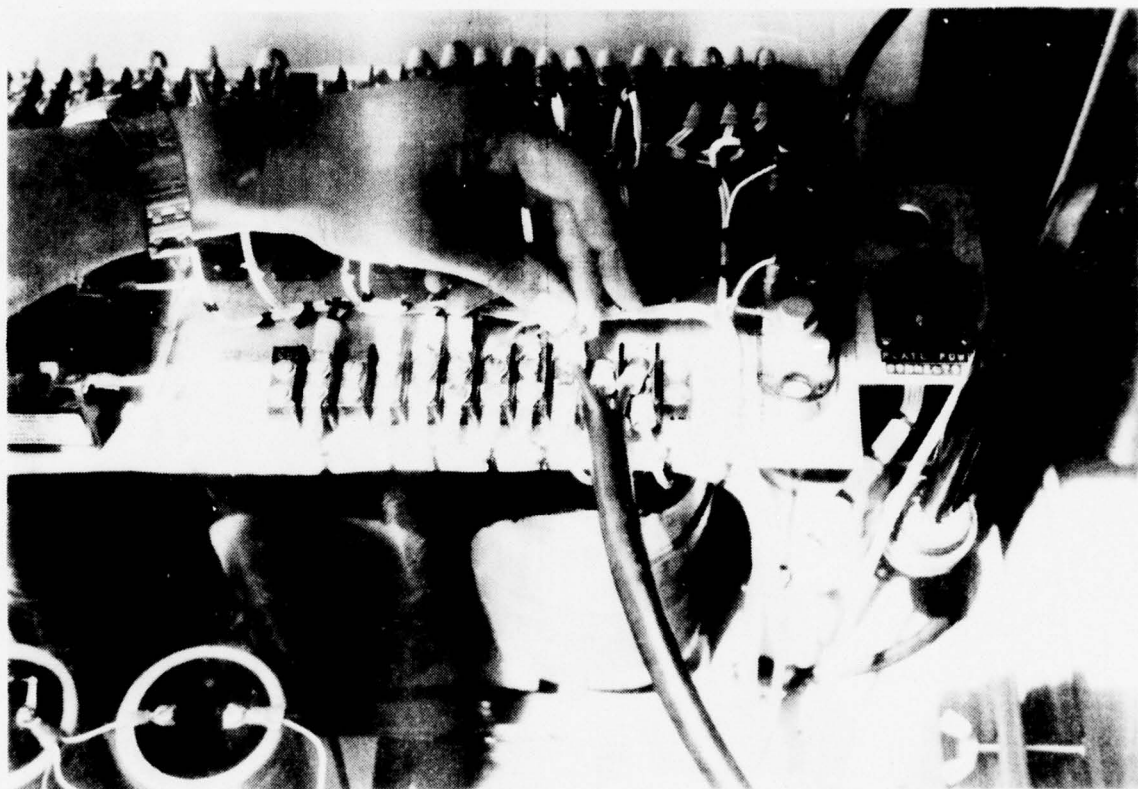

Figure 5. Plate Transformer a.c. Primary Power Connections
1. Plate transformer a.c. primary power connections (a screwdriver is needed) (figure 5).